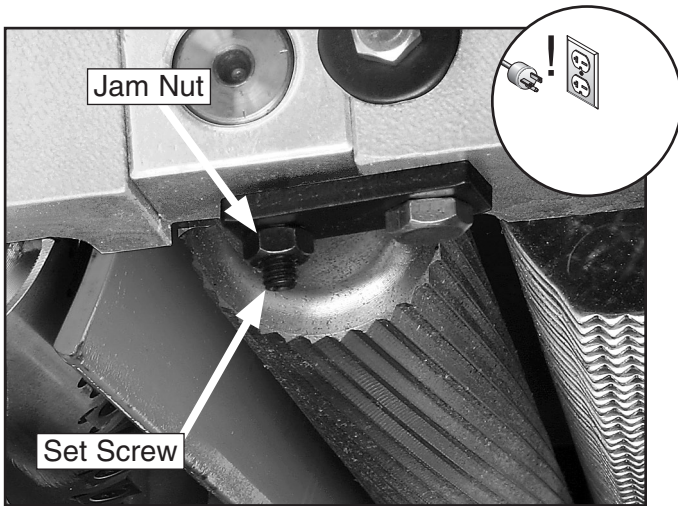

Figure 30. Roller height adjustment controls.
7. Adjust the height of the infeed roller on the same side as the Rotacator to the specification given at the beginning of this procedure, using the zero setting of the Rotacator as a reference point. **Figure 30** shows the jam nut and set screw for adjusting the roller height.
8. Loosen the feed roller adjustment screws (**Figure 30**) and turn the adjustment bolts on each end to raise the feed roller above the wood block (if necessary), then bring it back down so it just touches the wood block on both sides.